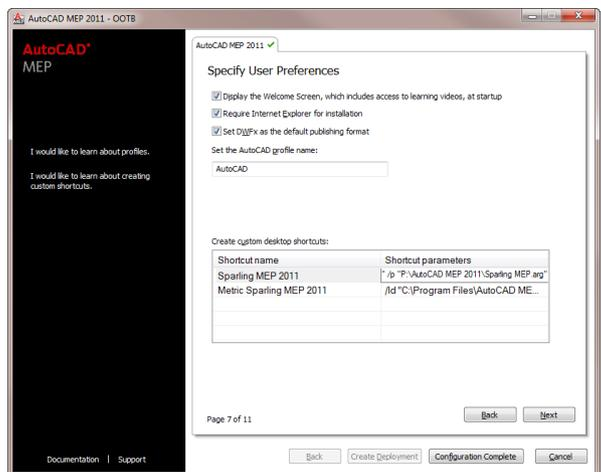

Figure 4: Create shortcuts for the desktop
3. Create custom desktop shortcuts that load the desired external profiles (see Figure 4). These are provided to give the users a way to launch AutoCAD with the correct profile, especially when multiple profiles may be required (such as Imperial or Metric.) These shortcuts will be installed to the %AllUsersProfile%\Desktop, which protects them from accidental deletion as long as the users are limited users.